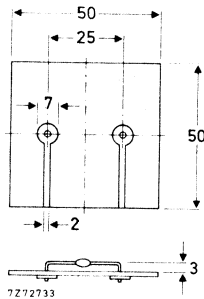

Fig. 2 Mounted on a printed-circuit board.
Average forward current (switching losses negligible up to 200 kHz) square wave; $\delta = 0,5$ $T_{tp} = 85\text{ }^\circ\text{C}$; lead length = 10 mm $T_{amb} = 60\text{ }^\circ\text{C}$; Fig. 2
2. Thermal resistance from junction to ambient when mounted on a 1,5 mm thick epoxy-glass printed-circuit board; Cu-thickness $\geq 40\text{ }\mu\text{m}$; Fig. 2